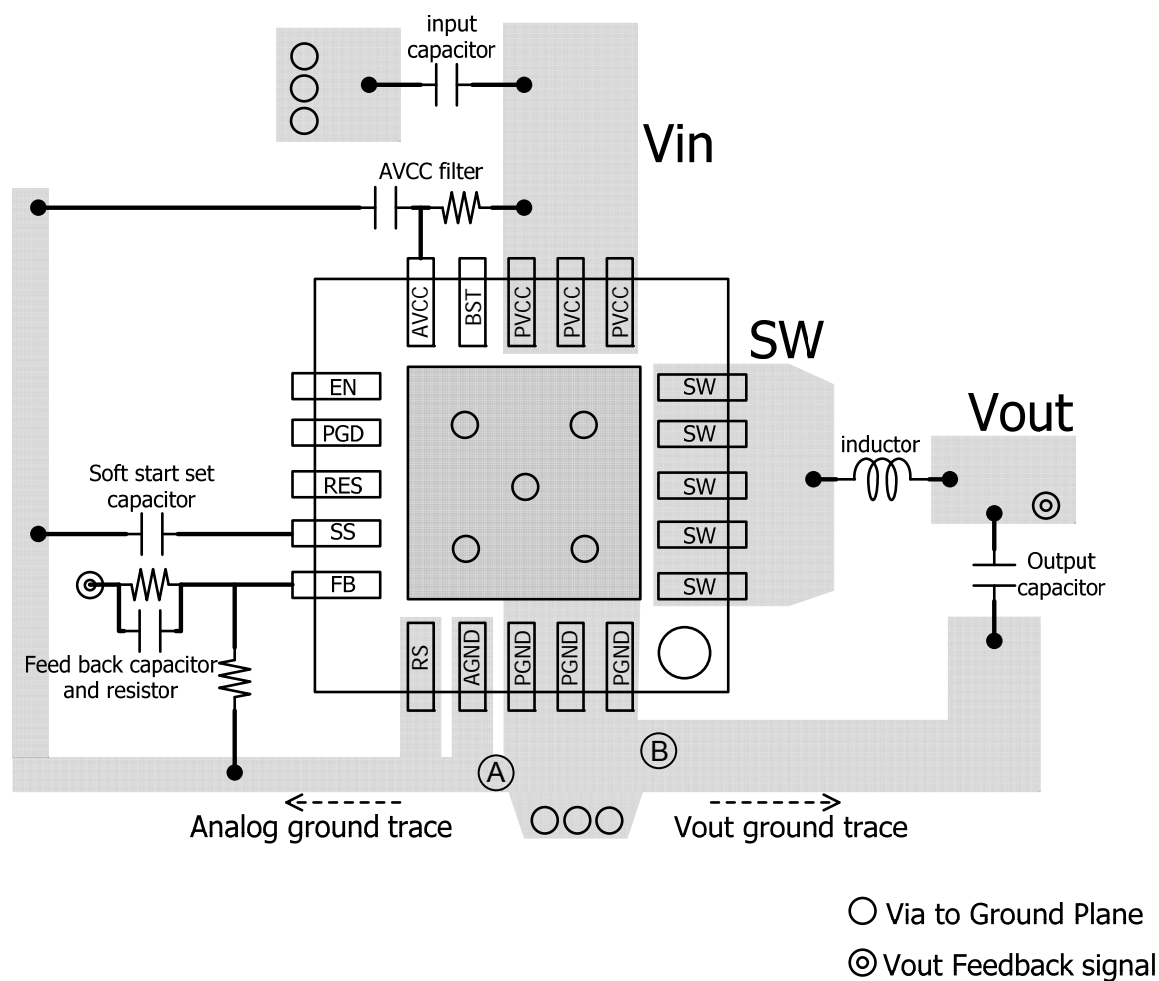

Figure 46. PCB layout
Ground sense interconnection should be carefully placed as input capacitors generate a large transient current. Connect analog ground pin, AGND, to ground plane at point (A) as shown in Fig.46 to prevent high current from passing through the analog ground trace. Vout ground, which carries a transient current, should be connected to ground plane at point (B). And Feed back capacitor and resistor are arranged trace nearly FB input pin. And please be careful Feed back LINE arranged trace for interfering with noise signal.